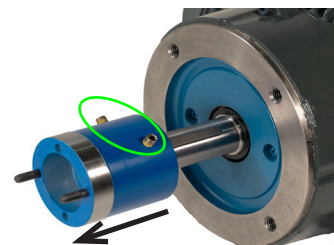

figure 16
- Remove the two set screws (Item 27) for NEMA frames or shaft bolt for IEC frames. See figure 16.